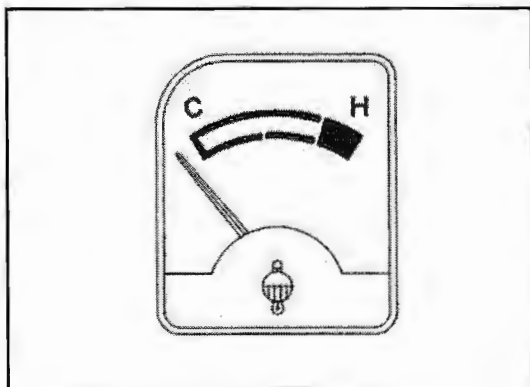

Fig. 11-3 — Coolant Gauge
3. **Engine Coolant Temperature Gauge** - If the gauge is in the "H" area, reduce the load on the engine or shift to a lower gear immediately and, if the needle stays in the "H" area, have cooling system checked immediately. (See Fig. 11-3).